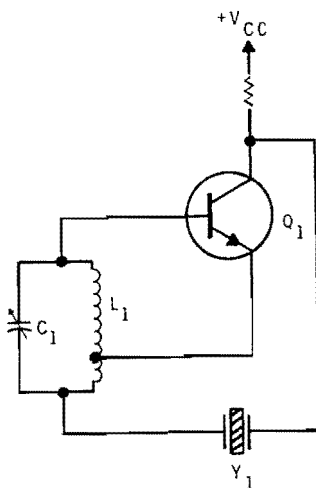

Figure 5-46
33. (high) The Hartley crystal oscillator, Figure 5-46, shows the crystal connected in the feedback path. For the crystal to operate in this circuit, the tank must be tuned to the crystals \_\_\_\_\_-resonant frequency.